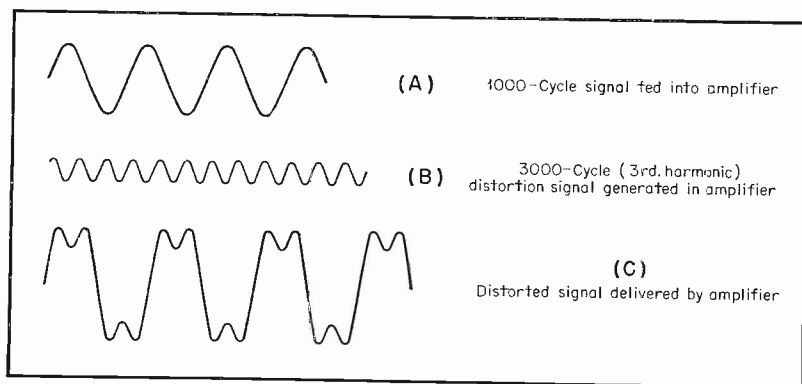

Fig. 2. Pronounced 3rd. harmonic distortion.
In order to see how amplitude distortion disfigures a signal as the latter passes through an amplifier, let us study Figures 1 and 2. For convenience in each instance, we have taken 1,000 cycles as the fundamental frequency of the signal fed into the amplifier. This signal is represented by the sine waves in Figures 1(A) and 2(A). In each case, the signal leaves the amplifier enlarged (amplified), as shown by 1(C) and 2(C). However, in Figure 1 a 2nd harmonic signal (2,000 cycles) has been generated within the amplifier and has been added to the output signal. And in Figure 2, a 3rd harmonic (3,000 cycles) has been set up and added. Figures 1(C) and 2(C) therefore represent distorted output signals.